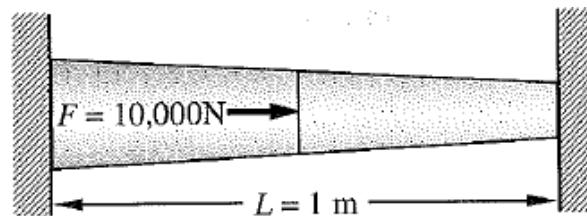

Figure P.10
10. Consider a tapered bar of circular cross-section shown in **Figure P.10**. The length of the bar is 1 m, and the radius varies as $r(x) = 0.050 - 0.040x$, where r and x are in meters. Assume Young's modulus = 100MPa. Both ends of the bar are fixed, and $F = 10,000 \text{ N}$ is applied at the center. Determine the displacements, axial force distribution, and wall reactions using four elements of equal length.